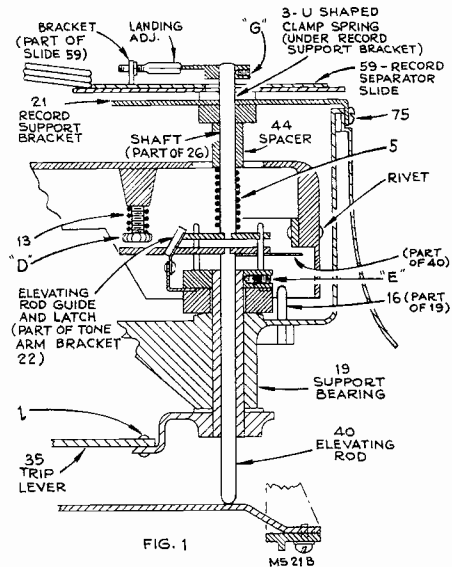
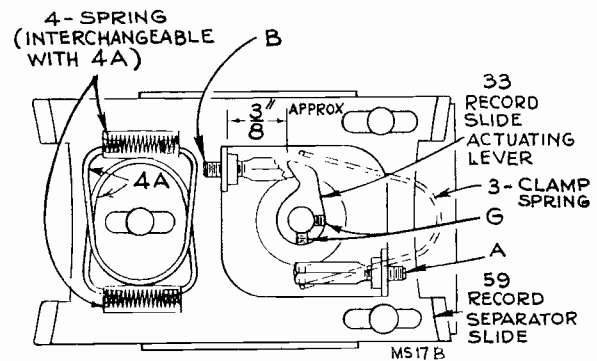

FIG. 1
FIG. 2
8. Mount separator shelf with mounting screws (75) (fig. 1).
9. Rotate record support shelf to 10 in. position and remove 10 in. landing adjustment stud B, press down on reject button and rotate turntable by hand in the normal direction until a click is heard. Place separator slide actuating lever (33) in position approximately $\frac{3}{8}$ in. from bracket as indicated in fig. 2. Tighten set screw "G." (Allow a little space between elevating rod (40) and tone arm locking cam (26) (fig. 1) when the mechanism is in the playing or out of cycle position.) Replace stud B (fig. 2).
10. When the foregoing adjustments have been made, remove record slide assembly by removing screws (75) (fig. 1) and assemble tone arm by snapping mounting hinge over bearing studs.
11. Replace slide assembly by feeding tone arm locking cam (26), down through the hole in tone arm and engaging studs (17). Make certain all levers remain in correct position while engaging cams and studs (17) and replacing mounting screw (75).
Tone Arm Elevating Rod (40) (fig. 1)
Actuating Lever Shaft (Part of 26) (fig. 1)
Record Separator Slide (59) (fig. 2)